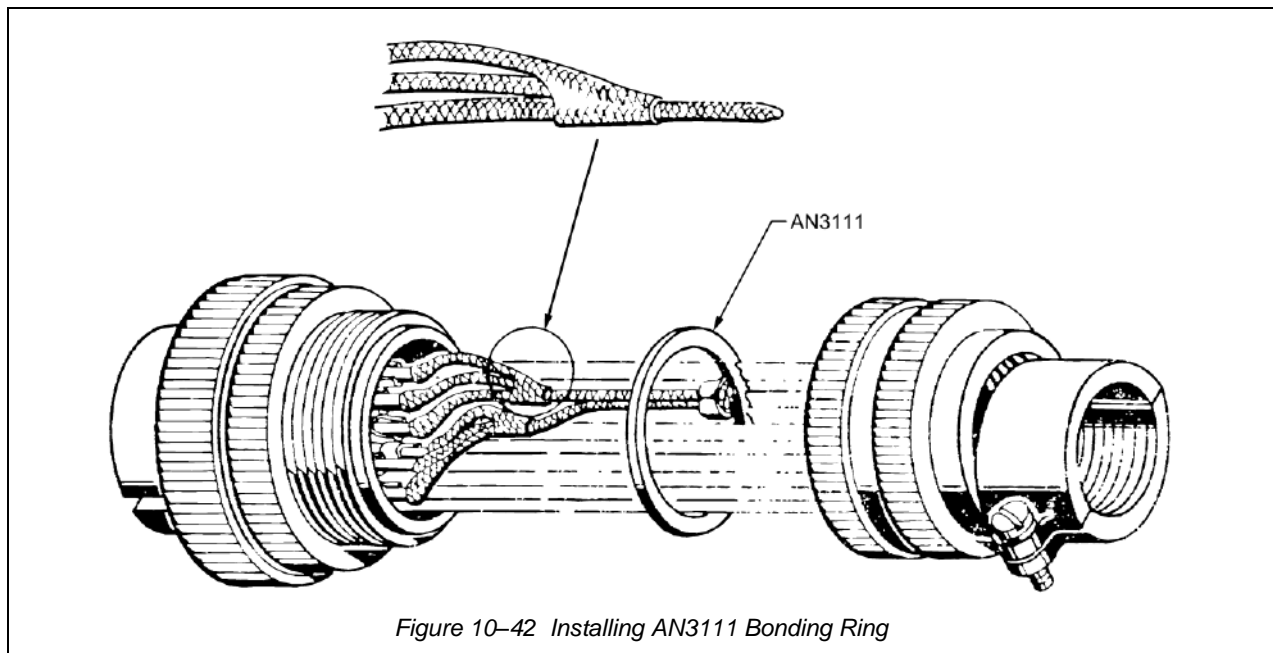

Figure 10-42 Installing AN3111 Bonding Ring
- Make a hole in one shield and expand it to hold up to three other shields as shown in Figure 10-42. Tighten the expanded shield around the others and seat solder together. Repeat as necessary for number of shields to be grounded.